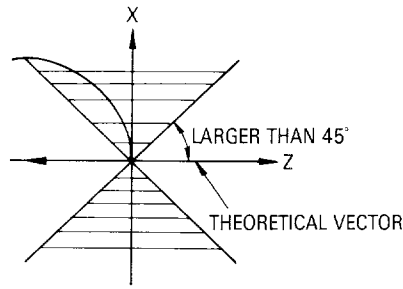

Fig. 14
(2) Approach $G00 \rightarrow G02$ ($G03$) or recess $G02$ ($G03$) $\rightarrow G00$
- (a) If the vector direction of the circular arc cutting command moving axis is larger than 45° relative to Z-axis, a vector (wall) parallel to Z-axis is theoretically erected to make compensation calculations with the cutting moving axis. The tool moves toward this calculated position. See Fig.14.